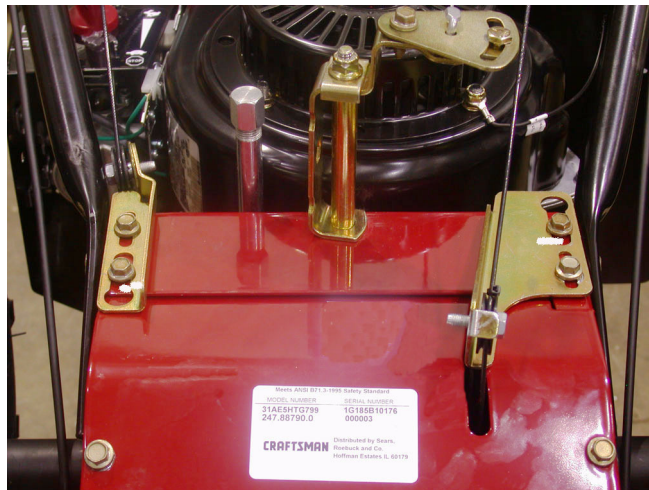

Figure 15.1
- 15.1. Loosen, but do not remove the (2) screws holding the auger cable with a 3/8" socket. See Figure 15.1.